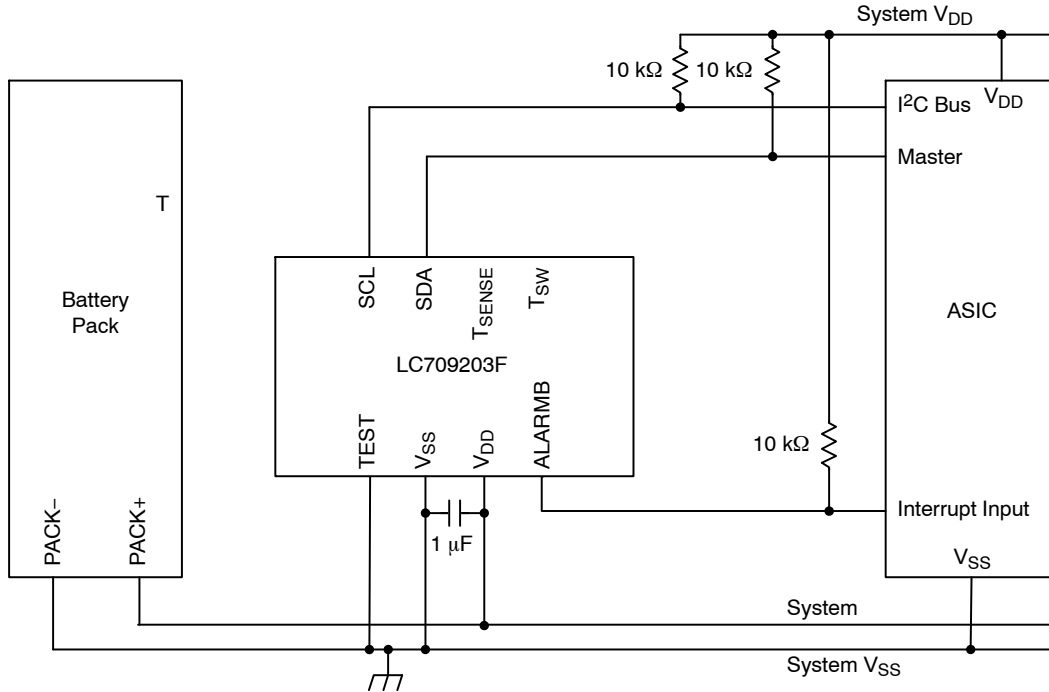

Figure 1. Example of an Application Schematic using LC709203F (Temperature Input via I2C)
1. T_{SW} and T_{SENSE} must be disconnected as Figure 1 when not in use.